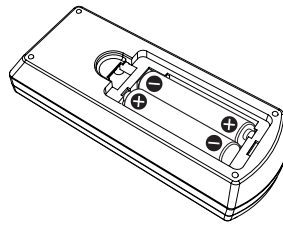

Fig. 2
- 2) **Insert batteries and close the cover. (Insert the \ominus side first.) (Fig. 2)**